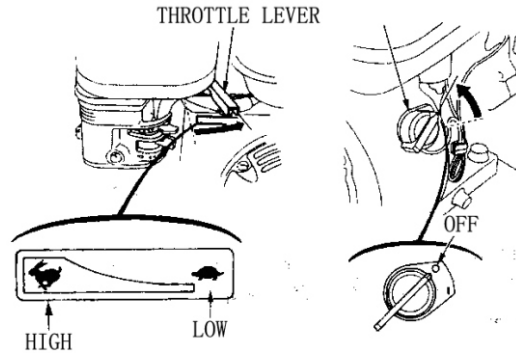

Fig. 11
- (1) Move throttle lever to right side.
- (2) Set engine switch to “OFF”. See figure 11.